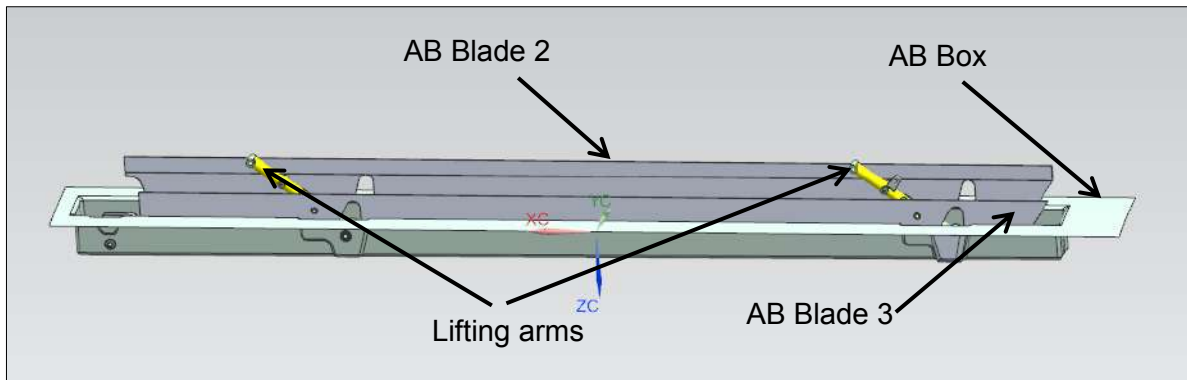

Figure 27-27: AB Box
14. Install airbrake blade 2 and blade 3 on the lifter arms as in Figure 27-27.